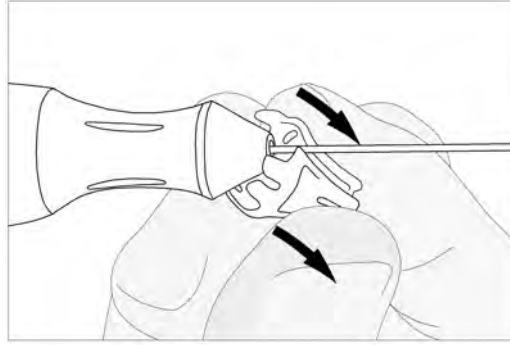

Figure 4.17. Removal of the finger guard.
- b. The finger guard can be removed from the handpiece, as shown in Figure 4.17. Carefully pull the finger guard off the front of the handpiece and rotate it such that the needle passes through the open slot on the finger guard. (Scrub Nurse)